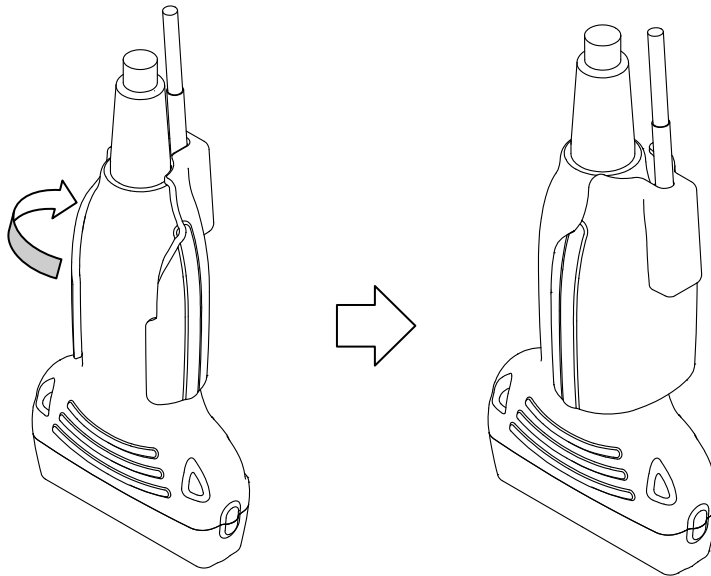

Fig. 5 How to release Magnetic sensor attachment from the probe
- 1) Turn around the magnetic sensor attachment and release it from the probe as shown in Fig. 5.